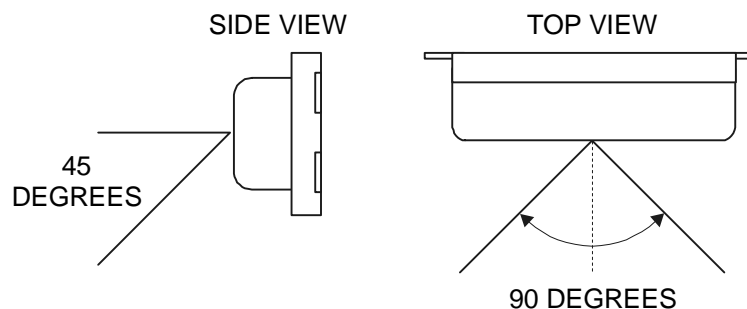

Figure 2-10. Digital Controller Display, Viewing Angles.
- Placement of the Genesis II Digital Controller should take into account the optimum viewing angle of the Liquid Crystal Display (LCD), which is approximately 45° vertically and 90° horizontally (see Figure 2-10).